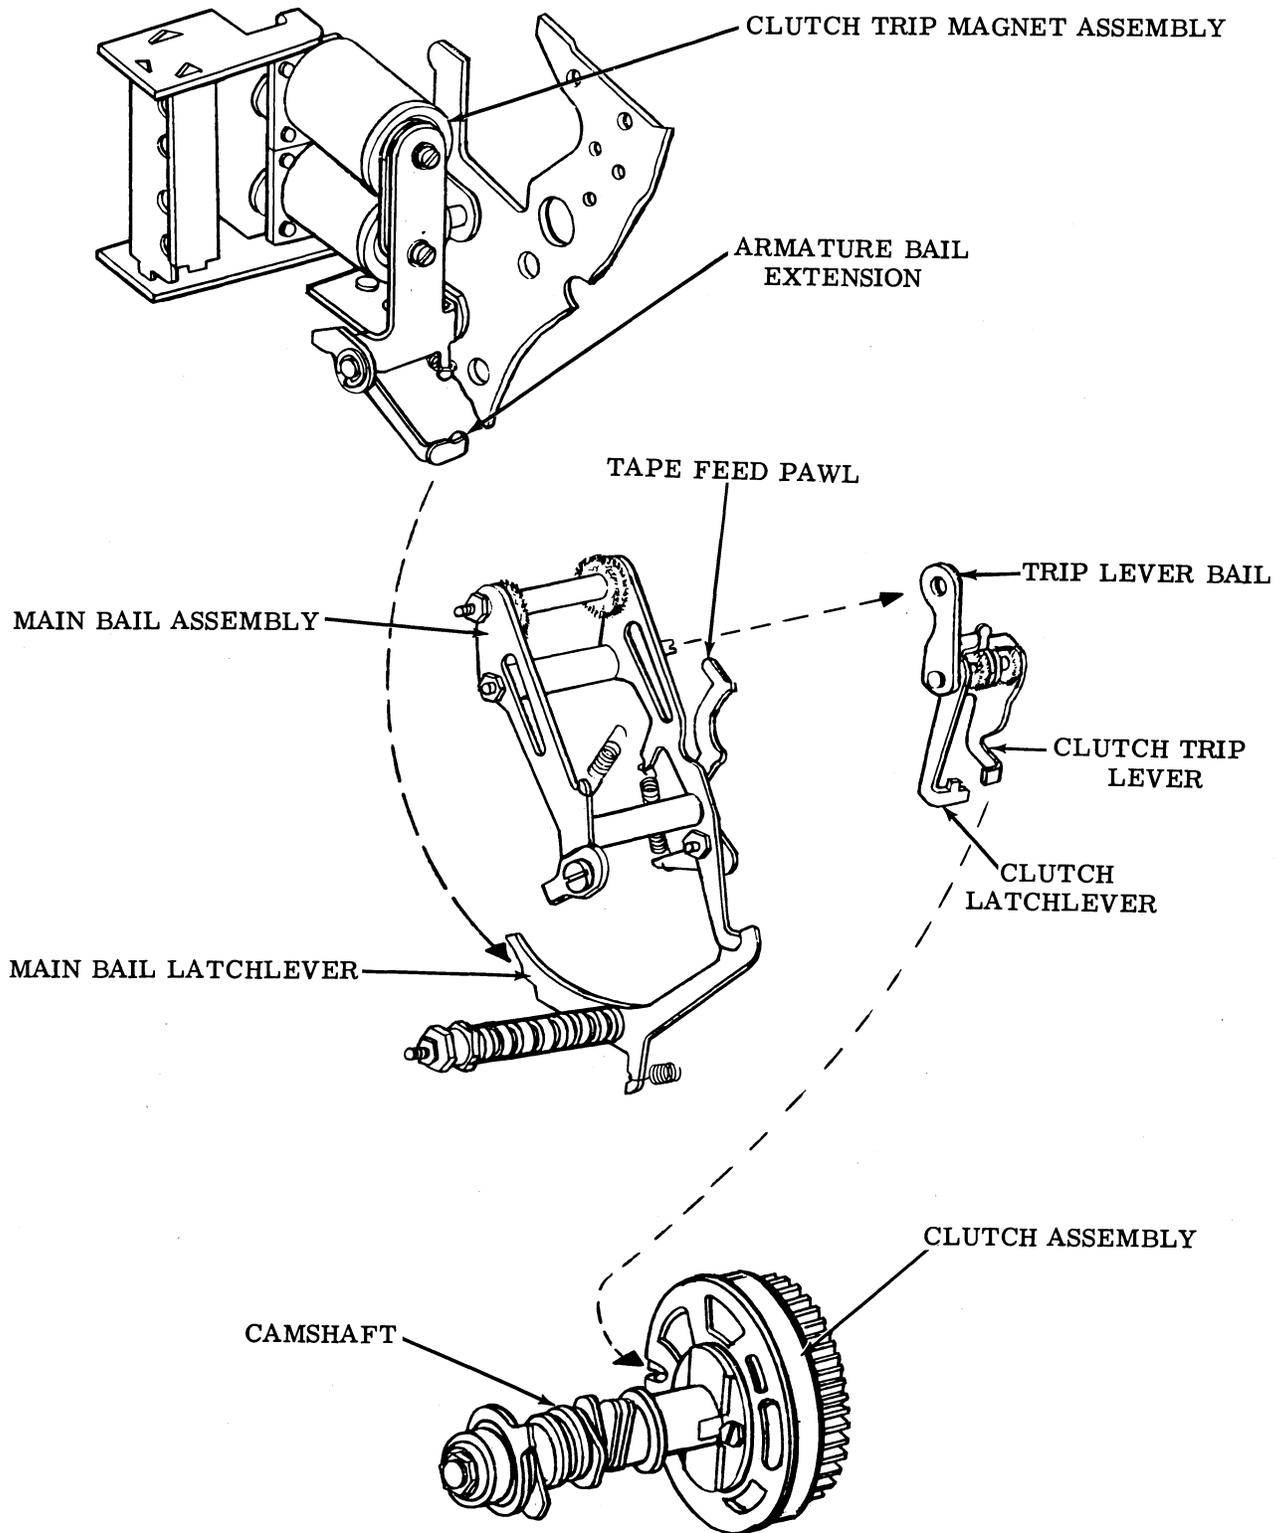

Figure 9 - Function Control Mechanism
4.02 The operating cycle starts with the transmitter distributor in the idle signal line condition, the drive motor running, tape in the unit, and the external portions of the transmitter distributor circuits complete. Move the control lever (Figures 5 and 8) to the RUN position. This positioning energizes the clutch trip magnet by completing the circuit through the start-stop and tight-tape contact assembly. Thus, the contact closes to complete the clutch trip magnet circuit, energizes the magnet, and pulls the armature up. The armature bail extension (Figure 9) cams the main bail latch lever about its pivot post to release the main bail.
4.03 The clutch trip bail is reset by an eccentric on the main bail. The eccentric rides in the slot of the clutch trip bail. When the eccentric on the spring biased main bail cams the clutch trip bail, the trip bail, in turn, moves the clutch trip lever (Figure 9) away from its latch. When the main bail is released, the clutch trip bail is also released by the interconnection. The main bail swings up drawn by the main bail spring and causes two actions to occur.
4.06 During the movement of the main bail, the clutch trip bail pivots on its axis and pushes the clutch trip lever away from the shoe release lever to engage the clutch and start the camshaft rotating (Figure 9).
permits the armature extension to pivot out of its blocking position and allows the main bail latchlever to be moved by its spring (Figure 9).